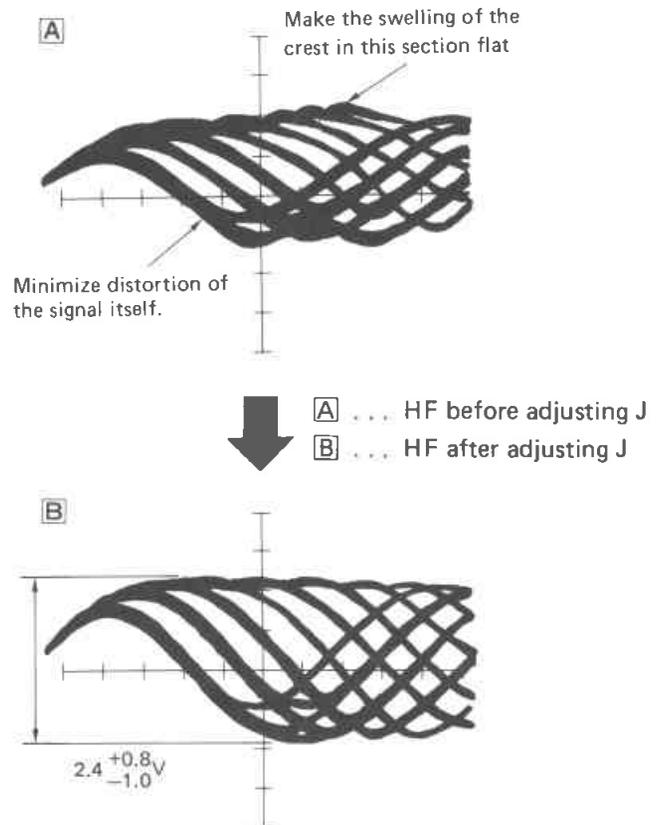

Fig. 13
Turn the J-direction adjusting screw so that HF signal shown in Fig. 13 is changed from state A to B.
- 10) Press the **STOP** key on the control unit and then press **CD** again to play back Track No. 1. Confirm that the level of HF signal at Track No. 1 (Inner circumference of the disc) is within $1.5 + 0.8 - 0.7 \text{ V}$ and that HF signal is clear as shown in Fig. 13-**B**.